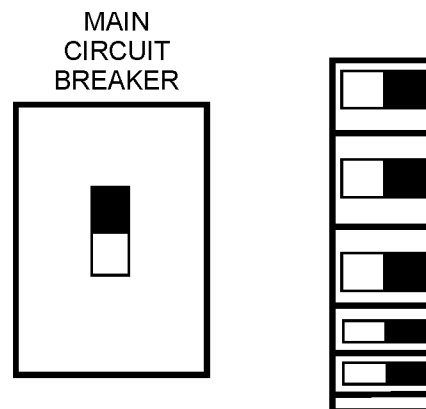

Figure 55. Main, Aux. and GFCI Circuit Breakers (ON)
18. Place the *main*, *GFCI*, and *aux.* circuit breakers in the "ON" position (Figure 55).